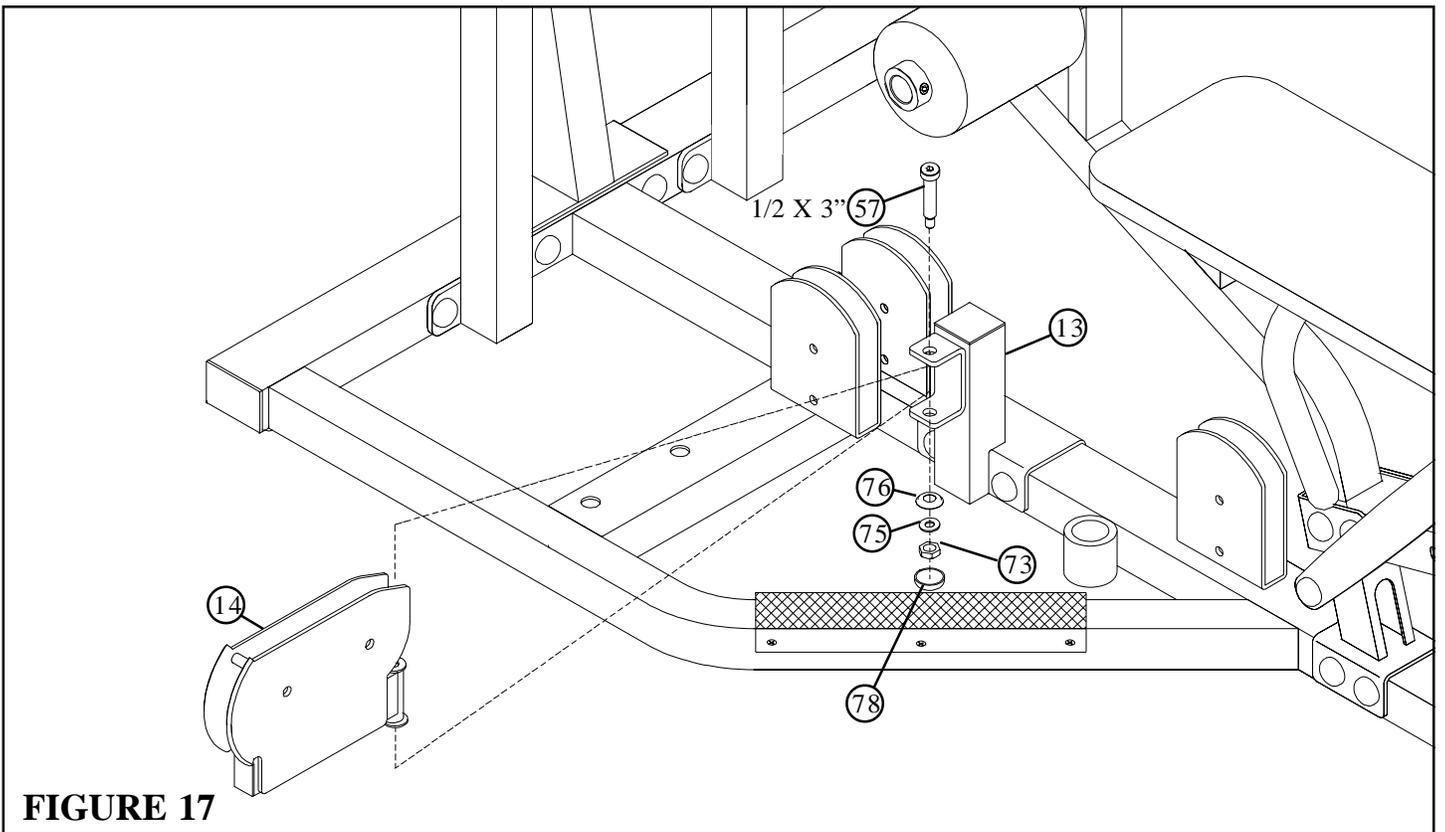

**FIGURE 16**
- **SECURELY** assemble the SWIVEL SUPPORT (13) to the BASE (1) using four RH CAPS (78), two 3/8 X 4" BOLTS (53), four 3/8" SAE WASHERS (75), four 3/8" RH WASHERS (76) and two 3/8" LOW HEIGHT LOCK NUTS (73) as shown in FIGURE 16.